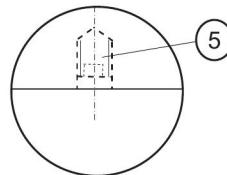

Abb.4
⑤. Screw the threaded pin M4 as far as the stop (fig.4)